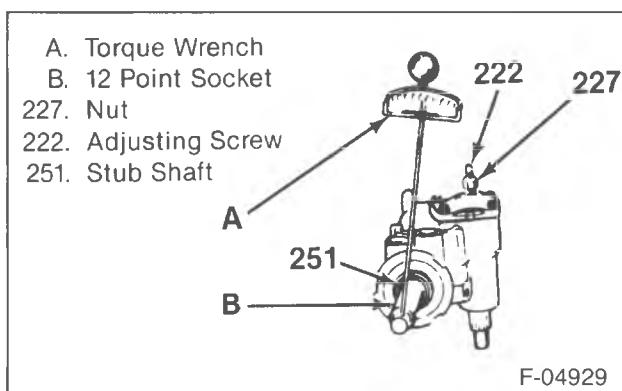

Figure 22—Aligning the Over-Center Preload
Adjust (Figure 22)
- Pitman shaft preload (figure 22).
- 2. Center the steering gear by turning the stub shaft (251) from right to left and counting the number of turns. Turn the shaft back halfway to the center position.
- 4. Tighten the adjusting screw (222) until the torque wrench reads 0.6 – 1.2 N·m (6–10 in. lbs.) higher than the reading noted in step “3.”